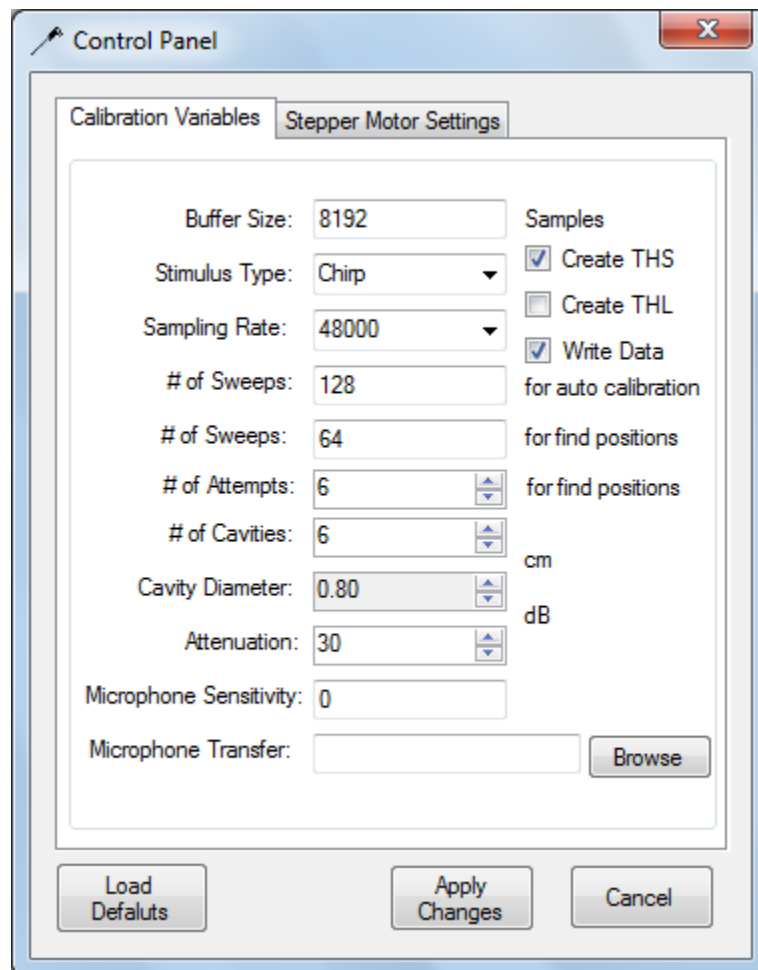

Figure 1. Calibration Variables Menu.
1. **Calibration Variables** are as follows (see Figure 1):